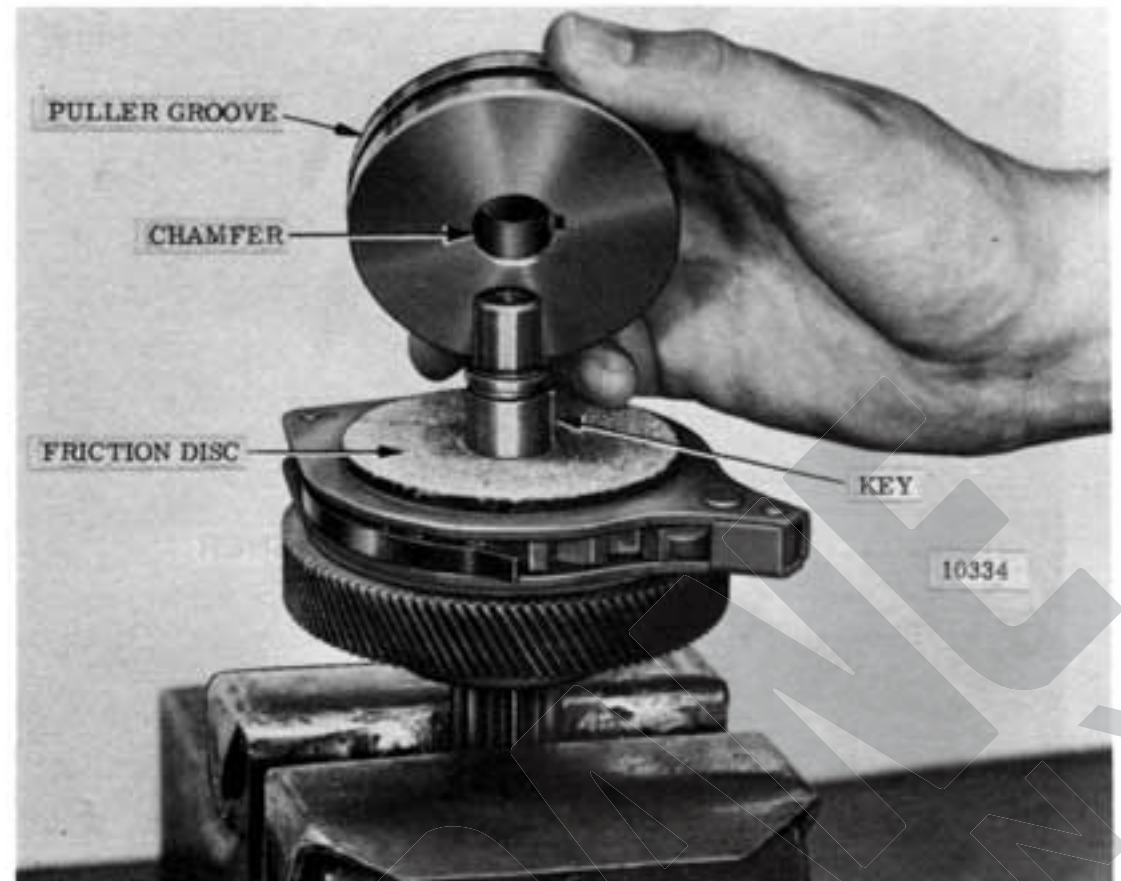
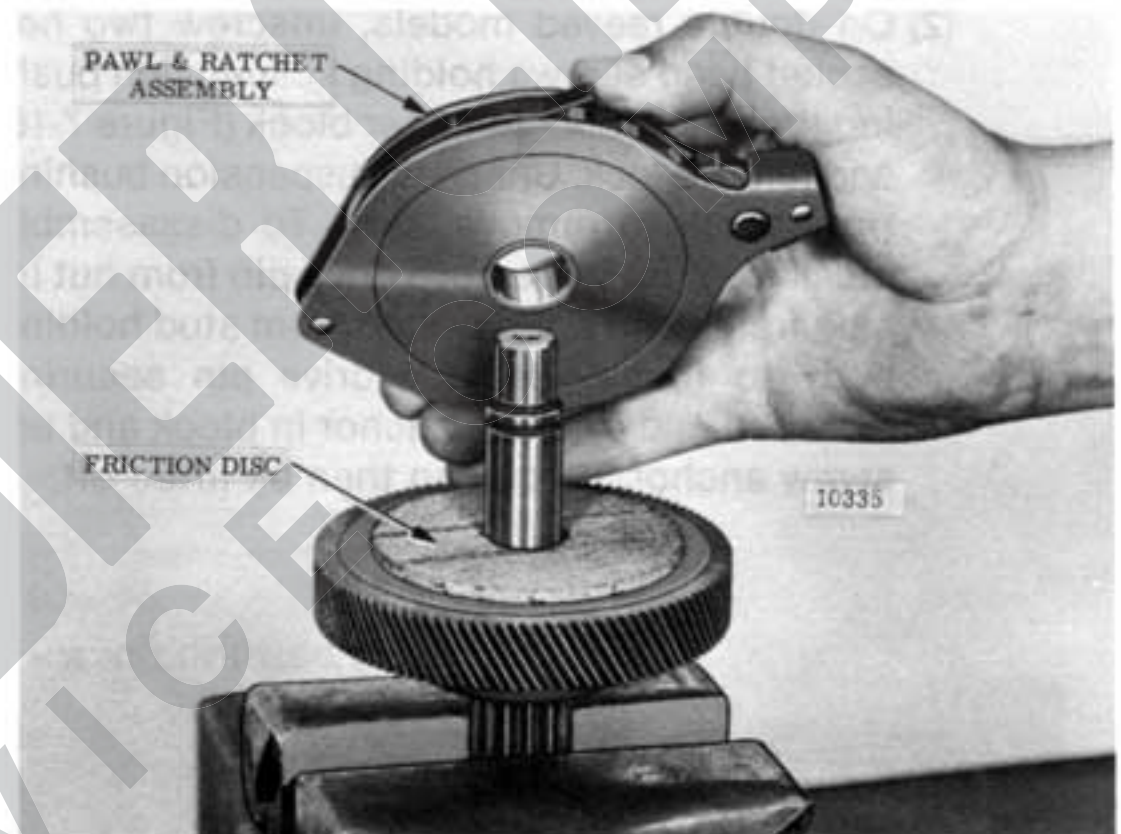

Figure 7-19. View Showing Load Brake Flange Removed.
Figure 7-20. Removing Pawl and Ratchet Assembly From Load Brake Shaft.
- (2) Using a puller tool, remove brake flange from shaft. A groove is provided around outer diameter for this purpose. See Figure 7-19. Remove key from shaft and lift off 2 friction discs, and the pawl and ratchet assembly (Figure 7-20).
- (4) When installing pawl and ratchet assembly on load brake shaft, be certain that teeth on ratchet face are in the same direction as shown in Figure 7-20. The ratchet assembly should rotate freely when turned counterclockwise and the pawl should engage ratchet teeth when unit is turned clockwise.
- (5) When installing brake flange position it with chamfer facing friction disc, Figure 7-19.